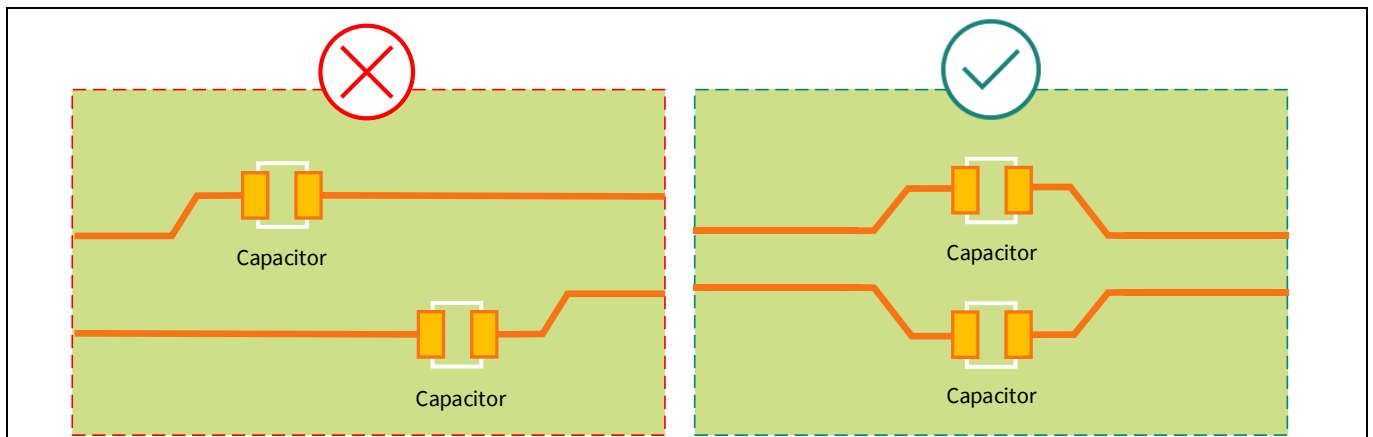

Figure 9 Place capacitors symmetrically to avoid discontinuities
- If differential pairs require serial coupling capacitors (AC coupling), place them symmetrically as shown in Figure 9. The capacitors create impedance discontinuities, so placing them symmetrically will reduce the risks of signal skew. Smaller component packages (like 0402) are preferable as they introduce less parasitic capacitance and inductance